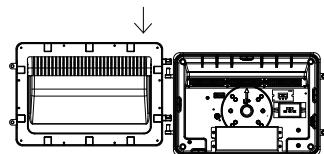

Figure 7
7. Follow special functions instructions for CCT, wattage adjustments. Reinstall Light Engine and connect to fixture back plate. (Figure 7)